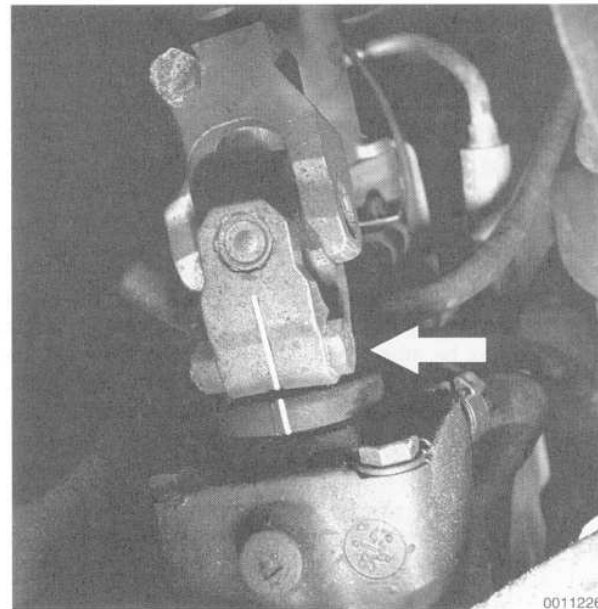

Fig. 5. Universal joint lower clamping bolt (arrow).
5. Remove the lower steering column universal joint clamping bolts and push the universal joint up off of the steering gearbox shaft. See Fig. 5.
10. Install the steering column universal joint to the steering gearbox shaft. Center the steering column to the gearbox by aligning the universal joint split with the mark on the steering gearbox. See Fig. 5 given earlier. Use a new self-locking nut on the clamping bolt.